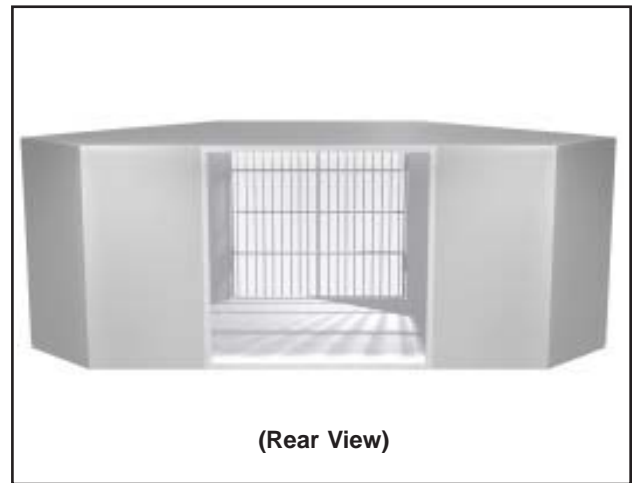

Figure 17. Full-view Back, Corner Cage
- for full-view back, Kitty Suites (Figure 17)